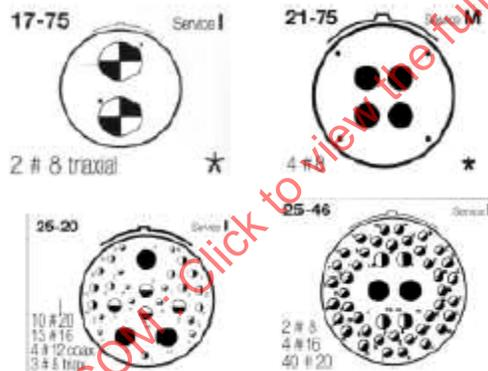

FIGURE 7 - Example of MIL-DTL-38999 Connector Inserts that Support Quadrax Inserts
3.1.2.2.2 MIL-DTL-38999 Quadrax Options: Figure 7 illustrates examples of MIL-DTL-38999 style connector inserts that have size #8 contacts and support the use of Quadrax inserts.